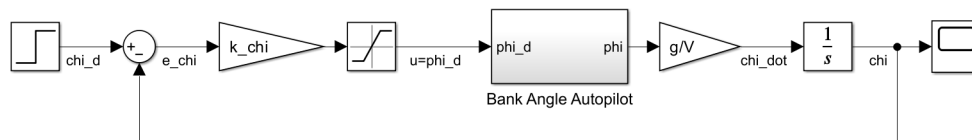

Figure 6: Block diagram for a Heading Angle Hold Mode (enclosing bank angle autopilot)
- (e) A block diagram for a heading angle χ hold mode is depicted in Figure 6. The Bank Angle Autopilot subsystem includes the the previously designed bank angle two-loop closed-loop control system. Assume the airplane is in a cruise flight condition with a speed of $V = 205$ m/s and initial heading angle of $\chi_0 = -0.2$ rad. Design the k_χ gain by replacing it with the PID block and using the PID Tuner app to achieve a compensated system with a phase margin of 63 degrees and gain margin of 11.5 dB. Check the transient response characteristics and simulate the heading angle hold autopilot in Simulink to maintain the airplane heading angle at 0.2 rad. Set the saturation limit for the desired bank angle such that $|\phi_d| < 0.7$ rad (40 degrees). [M]